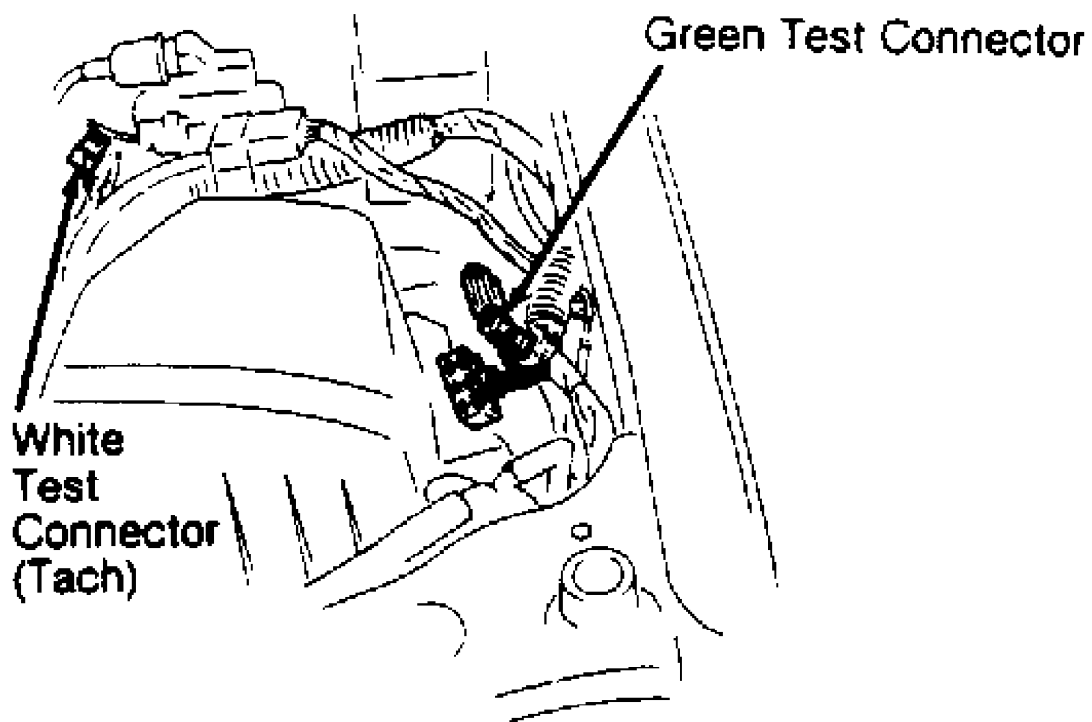

Fig. 6: MPV 2.6L Locating Green & White Test Connectors
Connect jumper wire between ground and Green test connector in left front corner of engine compartment. See Figs. 6, 7 and 9. Connect timing light. Set timing to specification. See IGNITION TIMING SPECIFICATIONS - EXCEPT RX7 TABLE. See Fig. 3. Remove jumper wire.
1) Connect jumper wire between ground and Green 1-pin test connector in left front corner of engine compartment. See Figs. 6 and 7. On 2.6L, connect tachometer to White 1-pin test connector in left front corner of engine compartment. See Fig. 6.